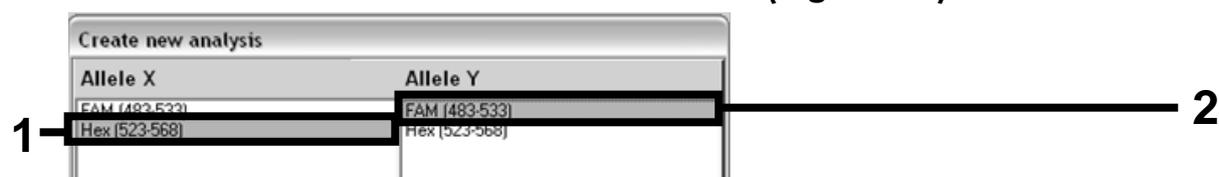

Figure 24. Selecting fluorescence for “Allele X” and “Allele Y”.
15. In the next window, select “Hex” (i.e., VIC) fluorescence for “Allele X” and “FAM” fluorescence for “Allele Y” (Figure 24).